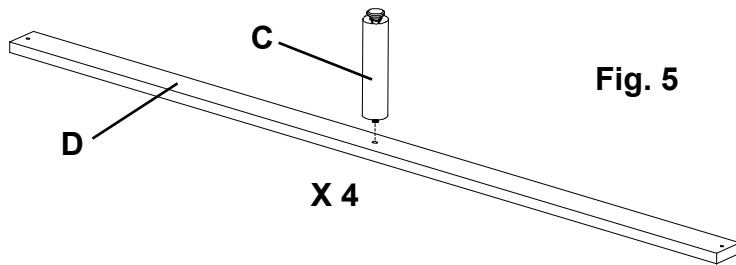

**Fig. 4**
4. Align the Brackets on both sides and slide the Side Rail/Footboard assembly down on to the Headboard (A). See Figure 4.